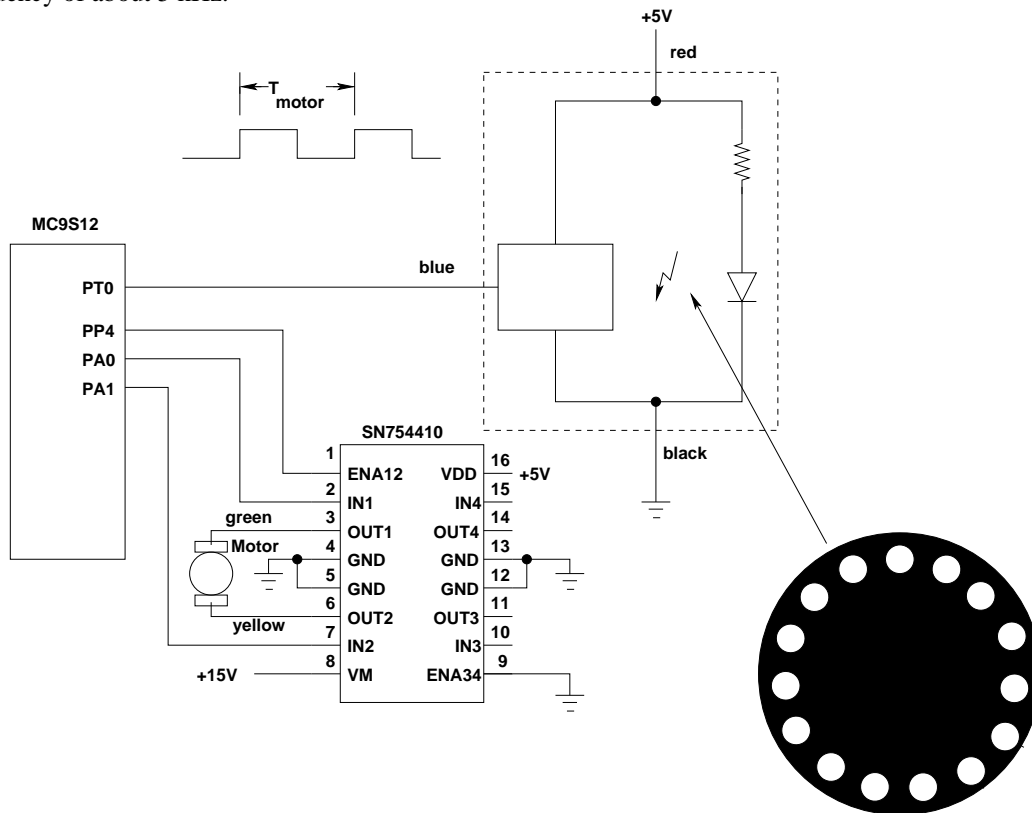

Figure 1. Using a pulse width modulated (PWM) signal to adjust the speed of a motor.
The speed of a motor can be adjusted by powering it with a pulse width modulated signal. Figure 1 shows how this can be done. The SN754410 motor controller works as a switch. When the signal on the enable (*ENA1*) input of the L293D is high the switch is closed, current flows through the motor, and the motor speeds up.
2. Program your MC9S12 to generate a PWM frequency of 5 kHz, with an active high PWM signal with a duty cycle of 50%. (Use Bit 4 of the PWM, since Bits 0 through 3 of Port P are used to enable the seven-segment LEDs.) Make Bit 0 of Port A high, and Bit 1 of Port A is low. Connect the circuit shown in Figure 1. Use your logic probe to verify that the optical encoder is working.